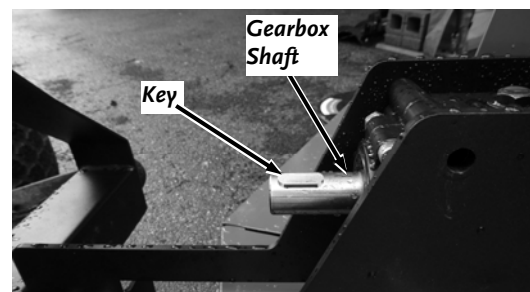

Figure 15
2. Insert the Key into the Trimmer Gearbox Shaft (**Figure 15**).